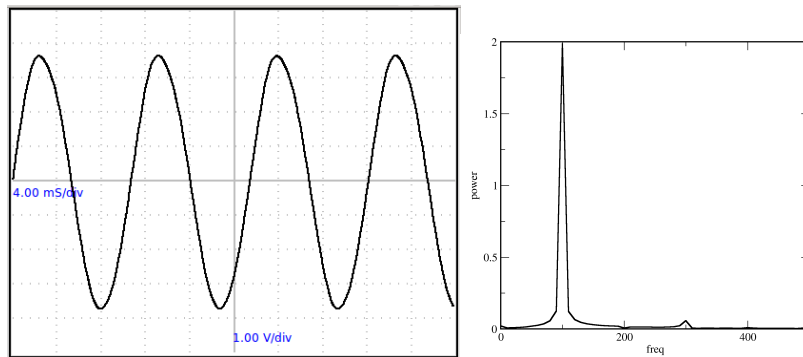

FIGURE 2.20 – (a)Sine wave. (b) Frequency spectrum by Fourier transform.
- The sinewave and it's Fourier transform are shown in figure2.20.